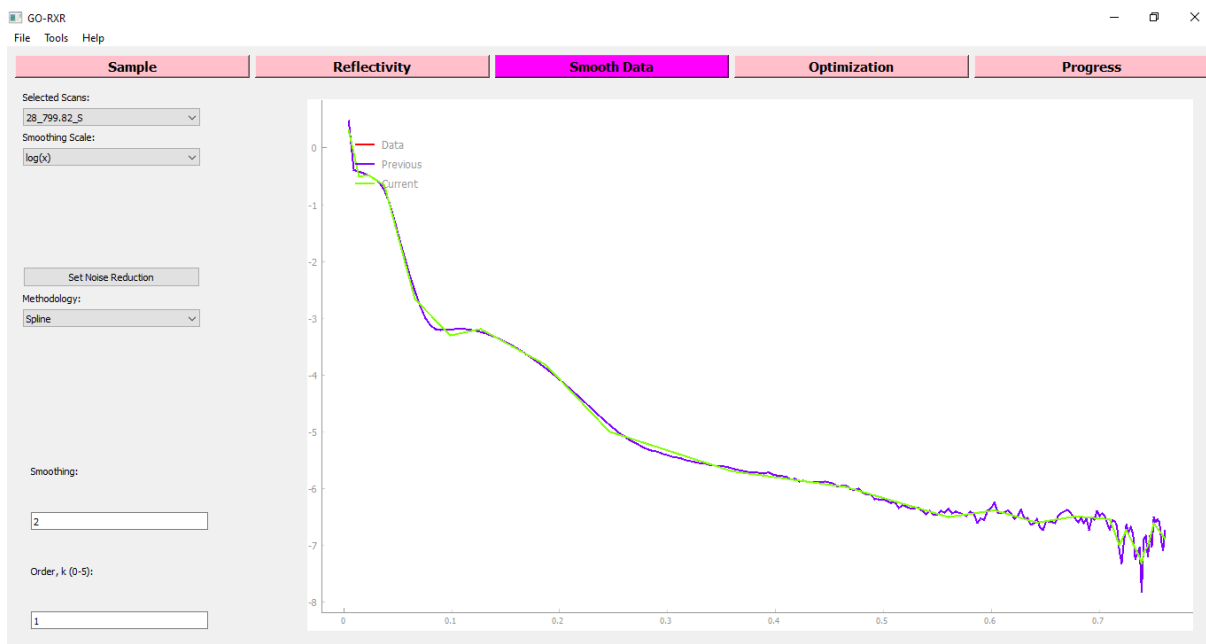

Figure 5.9: Spline Interpolation
Upon navigating to the smooth data workspace a window similar to figure 5.9 will appear. On the top left corner of the window there is two option boxes. The option box labeled **Selected Scan** contains all the scans selected for data fitting in the reflectivity workspace. The **Selected Scans** option box is used to select which scan to work on for the data smoothing. The **Smoothing Scale** option is used to transform the reflectivity (R). The possible transformations include R , $\log_{10}(R)$, $\ln(R)$, and $R(qz) * qz^4$. Note that $R(qz) * qz^4$ takes the reflectivity data at each momentum transfer value and multiplies the reflectivity by the momentum transfer to the power of 4. On the left side directly in the middle there is a button **Set Noise Reduction** and the option box labeled **Methodology**. The button **Set Noise Reduction** will save the current smoothed data attempt for the data fit. It should be noted that every time the smooth data workspace is exited that the previously fit parameters are not saved, but the smoothed data is. This means that smoothed data will only be saved locally and not to a GO-RXR data file. The **Methodology** option box contains the different smoothing methodologies to use. The only two available so far is spline interpolation and Fourier filters. In future versions it is being considered to include a neural network method.